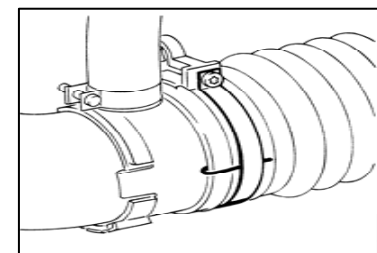

Fig 18. Copper wire assembly.
- ☐ j. Bend the copper wire flat forward so that the hose clamp fits over it. (Fig. 18)